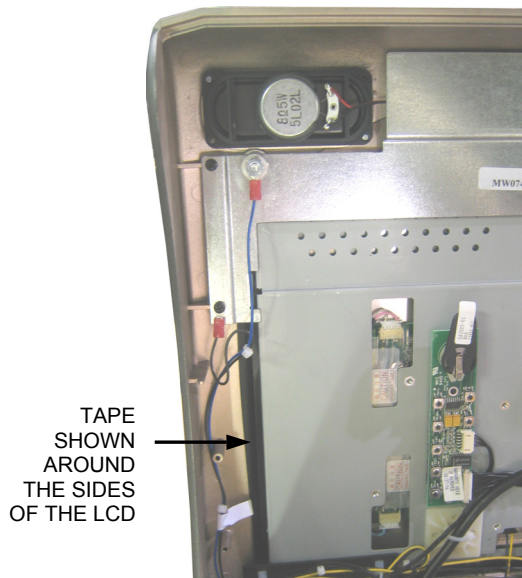

FIGURE 1 – INSIDE OF LCD AND BEZEL
- Solution:** If your game is experiencing calibration problems similar to those described above, and the serial number of the game is in the indicated serial number range above, unlock and open the front bezel and make sure it is properly taped. Figure 1 shows where to look to determine if the bezel is taped. If you determine that the touchscreen does not have the tape, contact your distributor for a free tape kit or install your own one-inch wide electrical or polyester tape. Follow the instructions on the reverse side of this bulletin to install the tape.